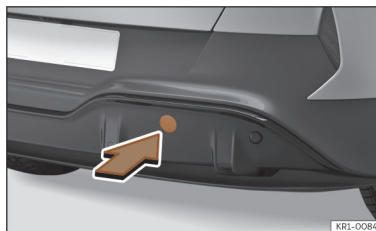

Fig. 189 Rear bumper on right: remove the lid.
>>> Fig. 189.
- Press the upper side of the lid >>> Fig. 189 to unclip it.